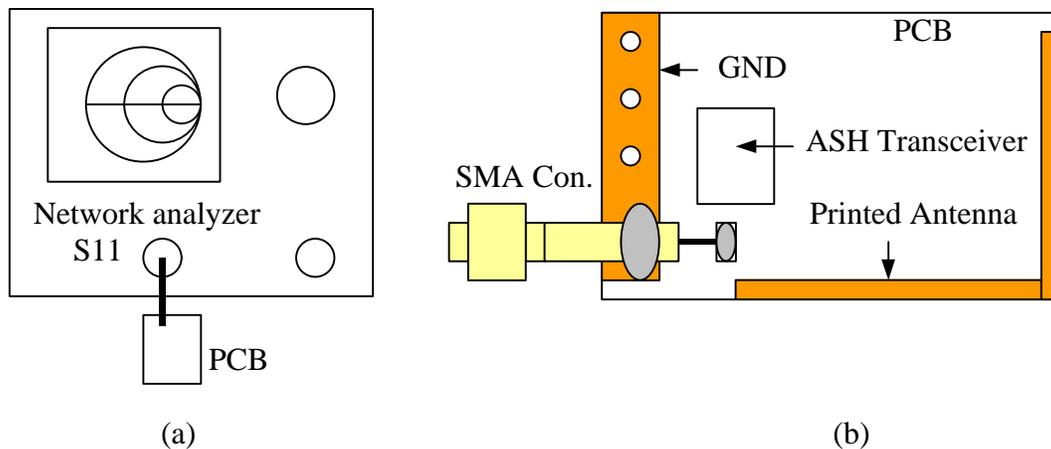

Fig. 1
- b. **Calibration:** Set the network analyzer to the Smith Chart display (of S_{11}) and set the sweep center frequency to the operating frequency of the ASH transceiver. Connect the SMA connector with the coaxial cable and the PCB to the network analyzer (see Fig. 1(a)) and calibrate for an “open”. Then connect the coaxial cable center conductor to the shield and calibrate for a “short”. Connect a 50 ohm resistor from the coaxial cable center conductor to GND for “load” and then “done”. It is then best to recheck the calibration result for “open and “short” again.